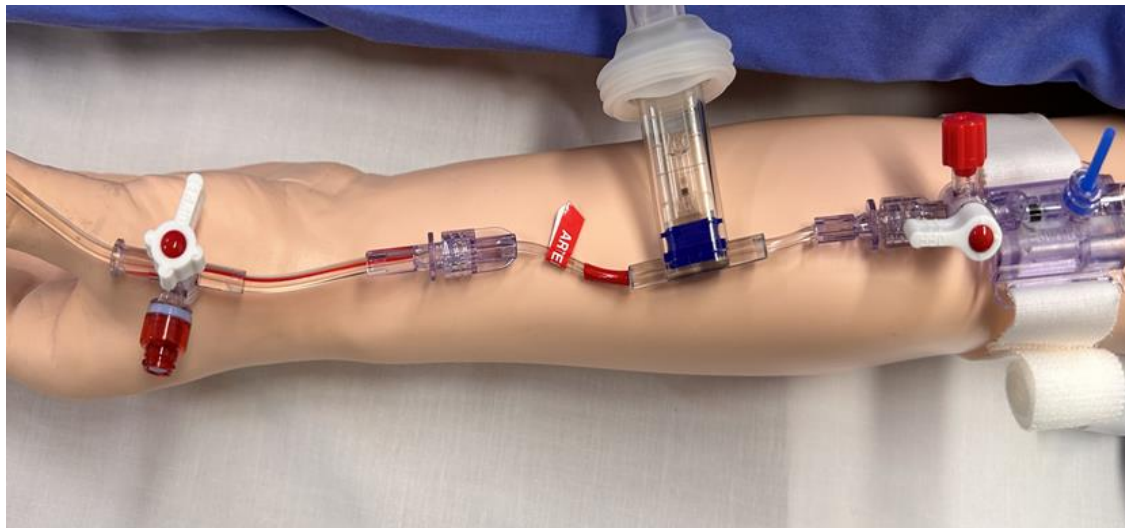

Figure 3.
- Turn the three-way tap most distal to the insertion site or near the transducer 'Off' toward the patient (See Figure 3 below)